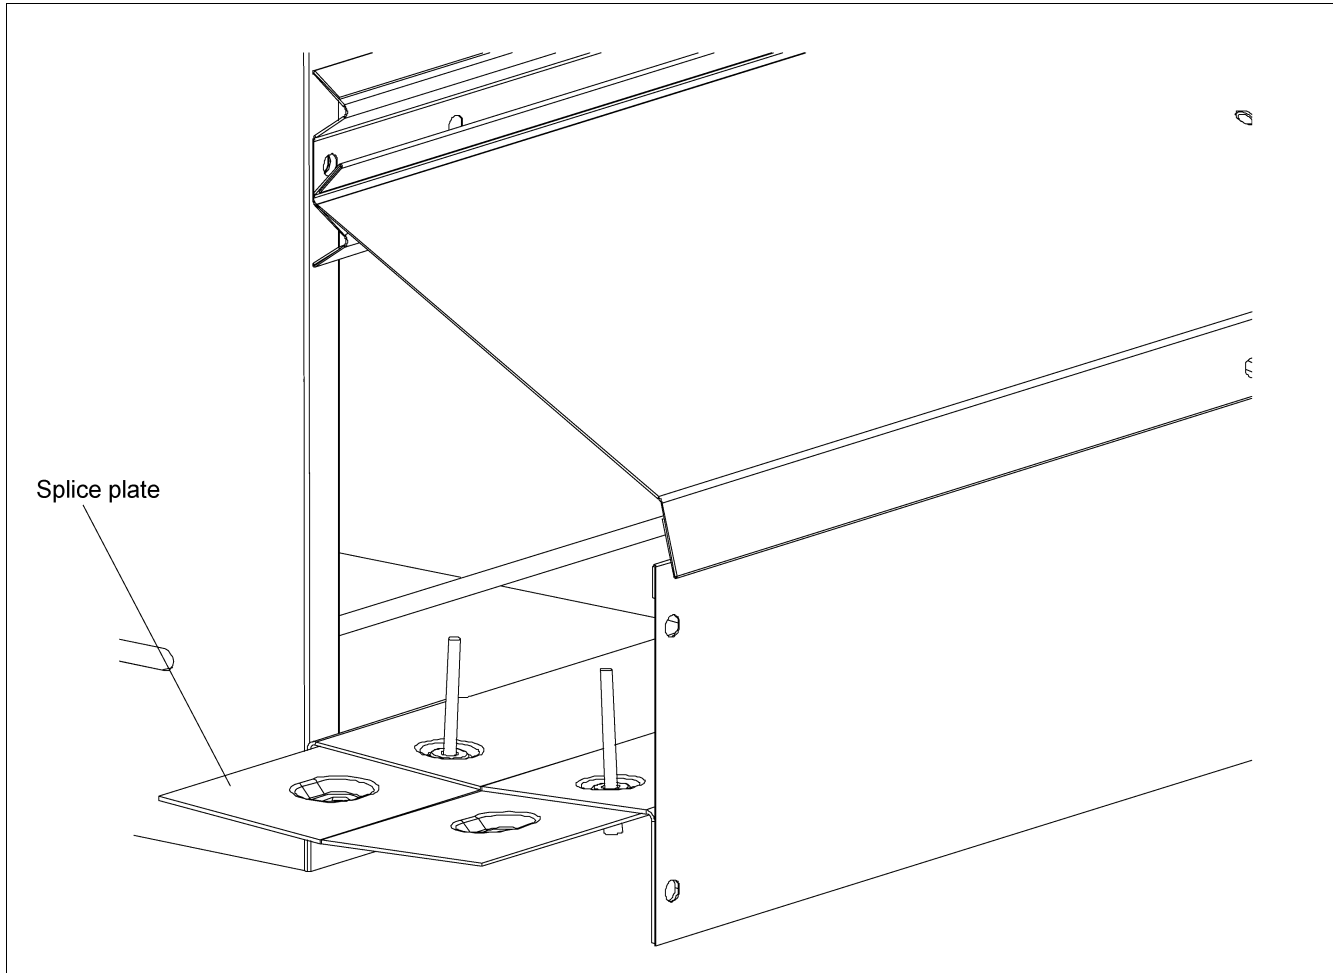

Figure 4M Splice Plate Assembly
12. Attach a splice plate under the egg tray using two (2) **S-7235 (rivet, PMG 3/16" diameter x 7/16" long ARSM) steel rivets**. Repeat for other side of nest on the same end. *(See Figure 4M.)*